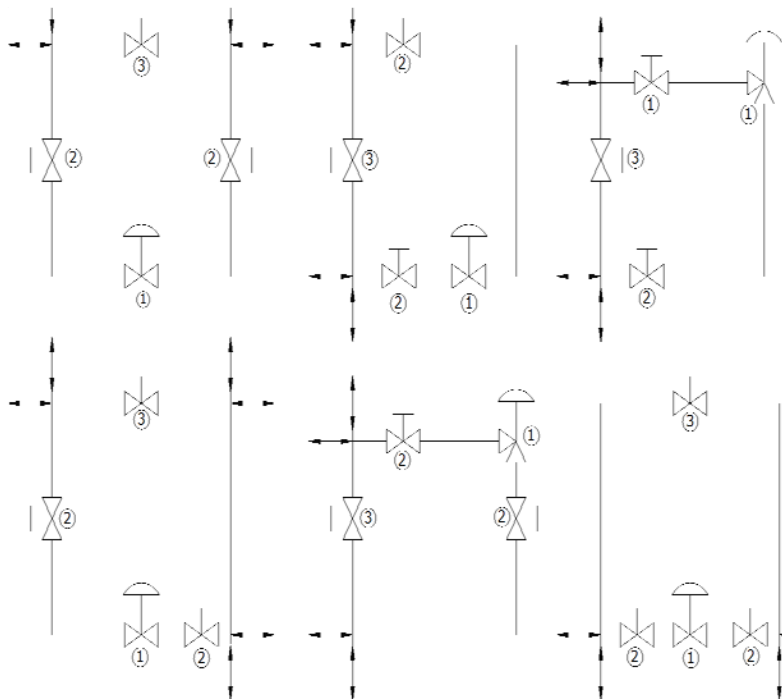

Fig 3.5 Example of Control Valve Installation
H) Install a bypass line for valve maintenance. (See Fig 3.5)